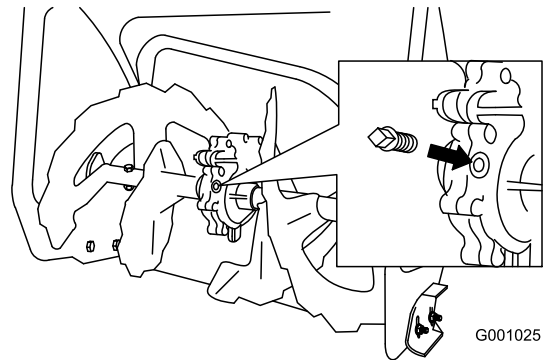

Figure 41
2. Clean the area around the pipe plug (Figure 41).